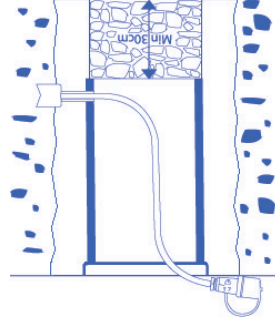

Fig.3.
- All of our larger ground recessed luminaires come supplied with a mounting sleeve. When installing the mounting sleeve of the luminaire into the ground, always prepare a minimum of 30cm of gravel under the sleeve housing to allow for drainage (See Fig.3). Check that drainage is adequate by filling the sleeve with water and confirming that the water has completely drained in 30 minutes. To avoid any water damage to this luminaire, it may be necessary to add further drainage (e.g. a drainage tube).
- Always allow sufficient slack in the supply cable in order to remove the luminaire from its mounting sleeve or position for any future maintenance. It may be possible to use an IP68 connector (available from Aurora AU-CK01. See Fig.3).